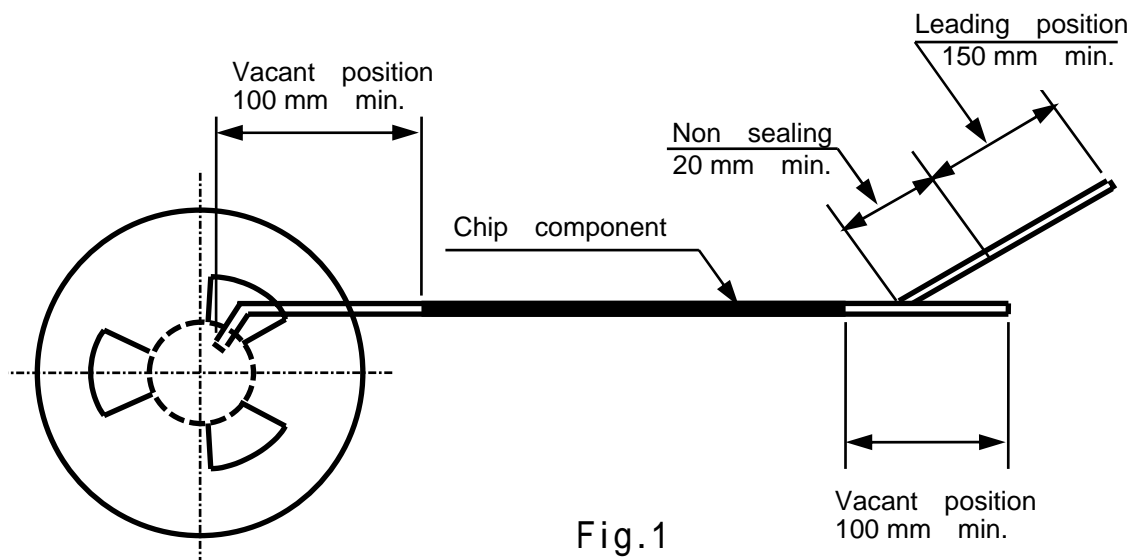

Fig.1
6.4. Taping method ..... Fig.1